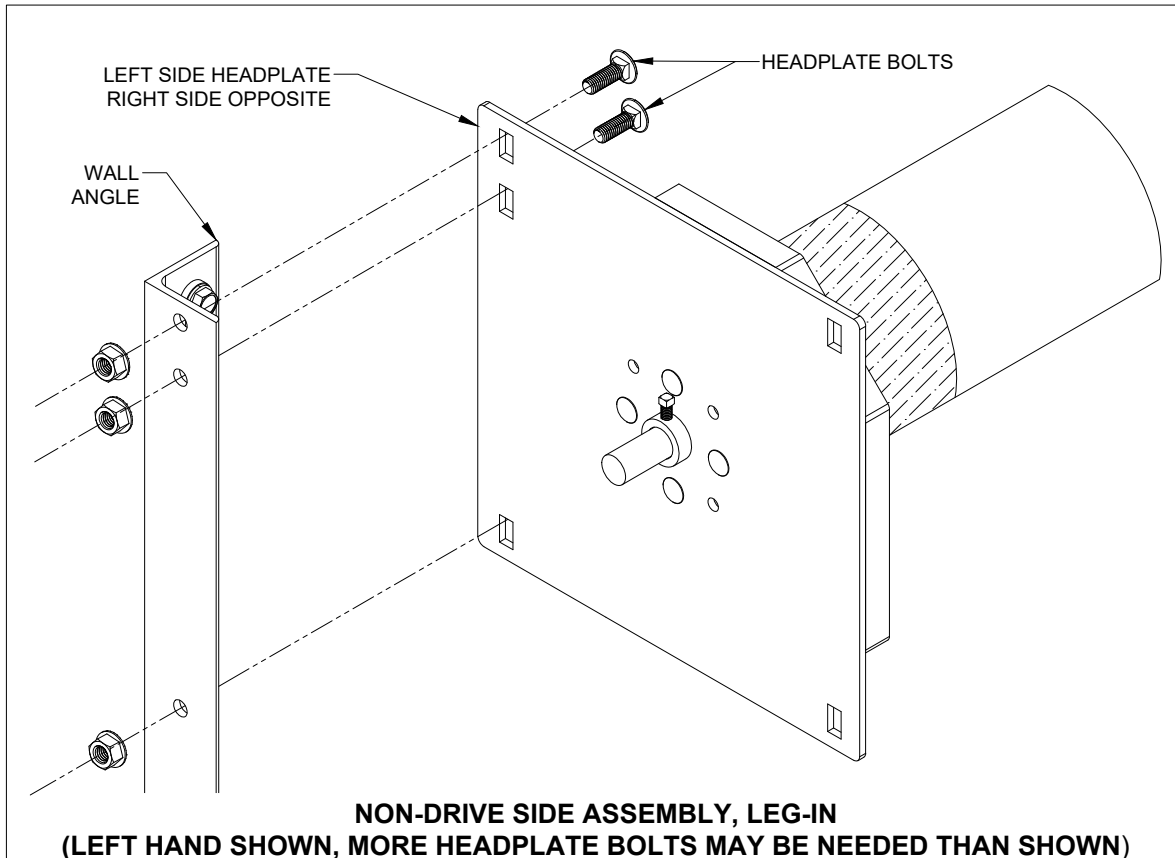

FIGURE 9
- b. Attach headplate to the **INSIDE** of wall angles as shown in Figure 9.